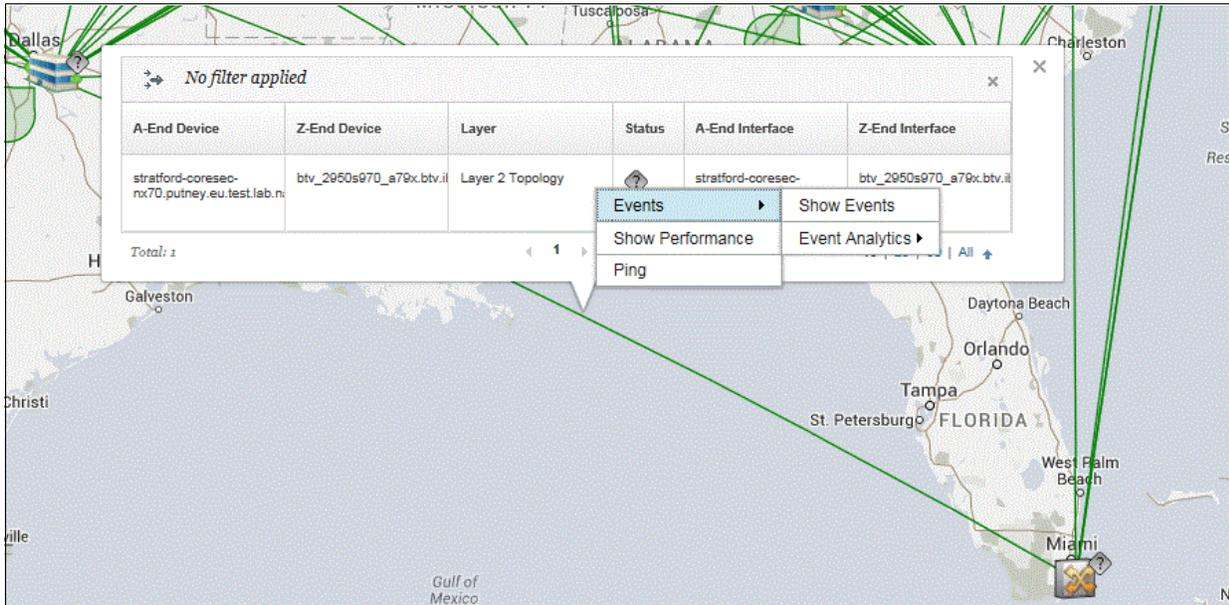

Figure 3-2 Right-click a single row
3. You can also right-click a link to show all of the connections it represents. Right-click a single row to perform actions on that link, as shown in Figure 3-2.